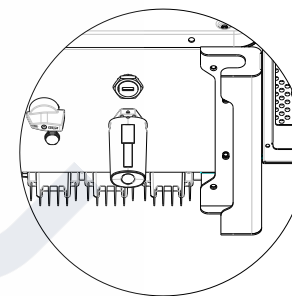

Fig 6.8A
- 2> As shown in Figure 6.8A, insert the Shine GPRS-X2 module into the USB interface, and the LED of the Shine GPRS-X2 module will be on.